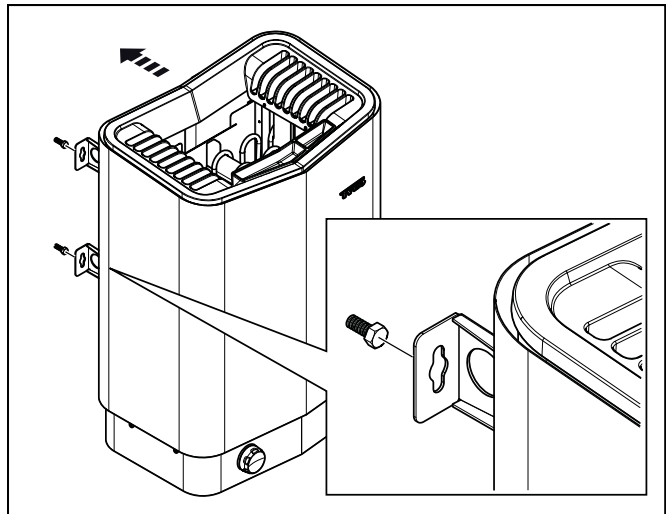

Figure 10: Hang the heater up.
4. Hang the heater on the screws see Figure 10, Page 4.